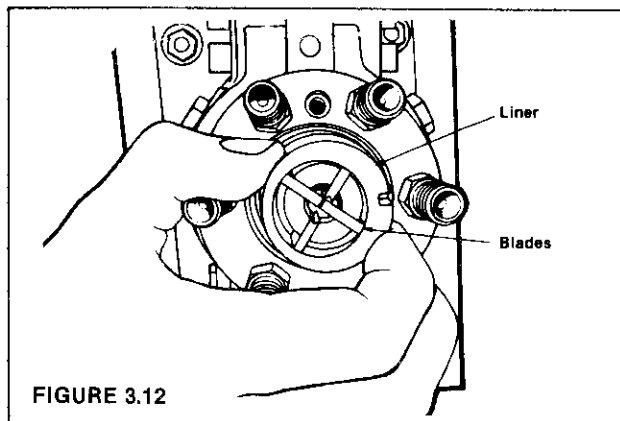

FIGURE 3.12
STEP 12 Remove the transfer pump blades and liner (Figure 3.12).